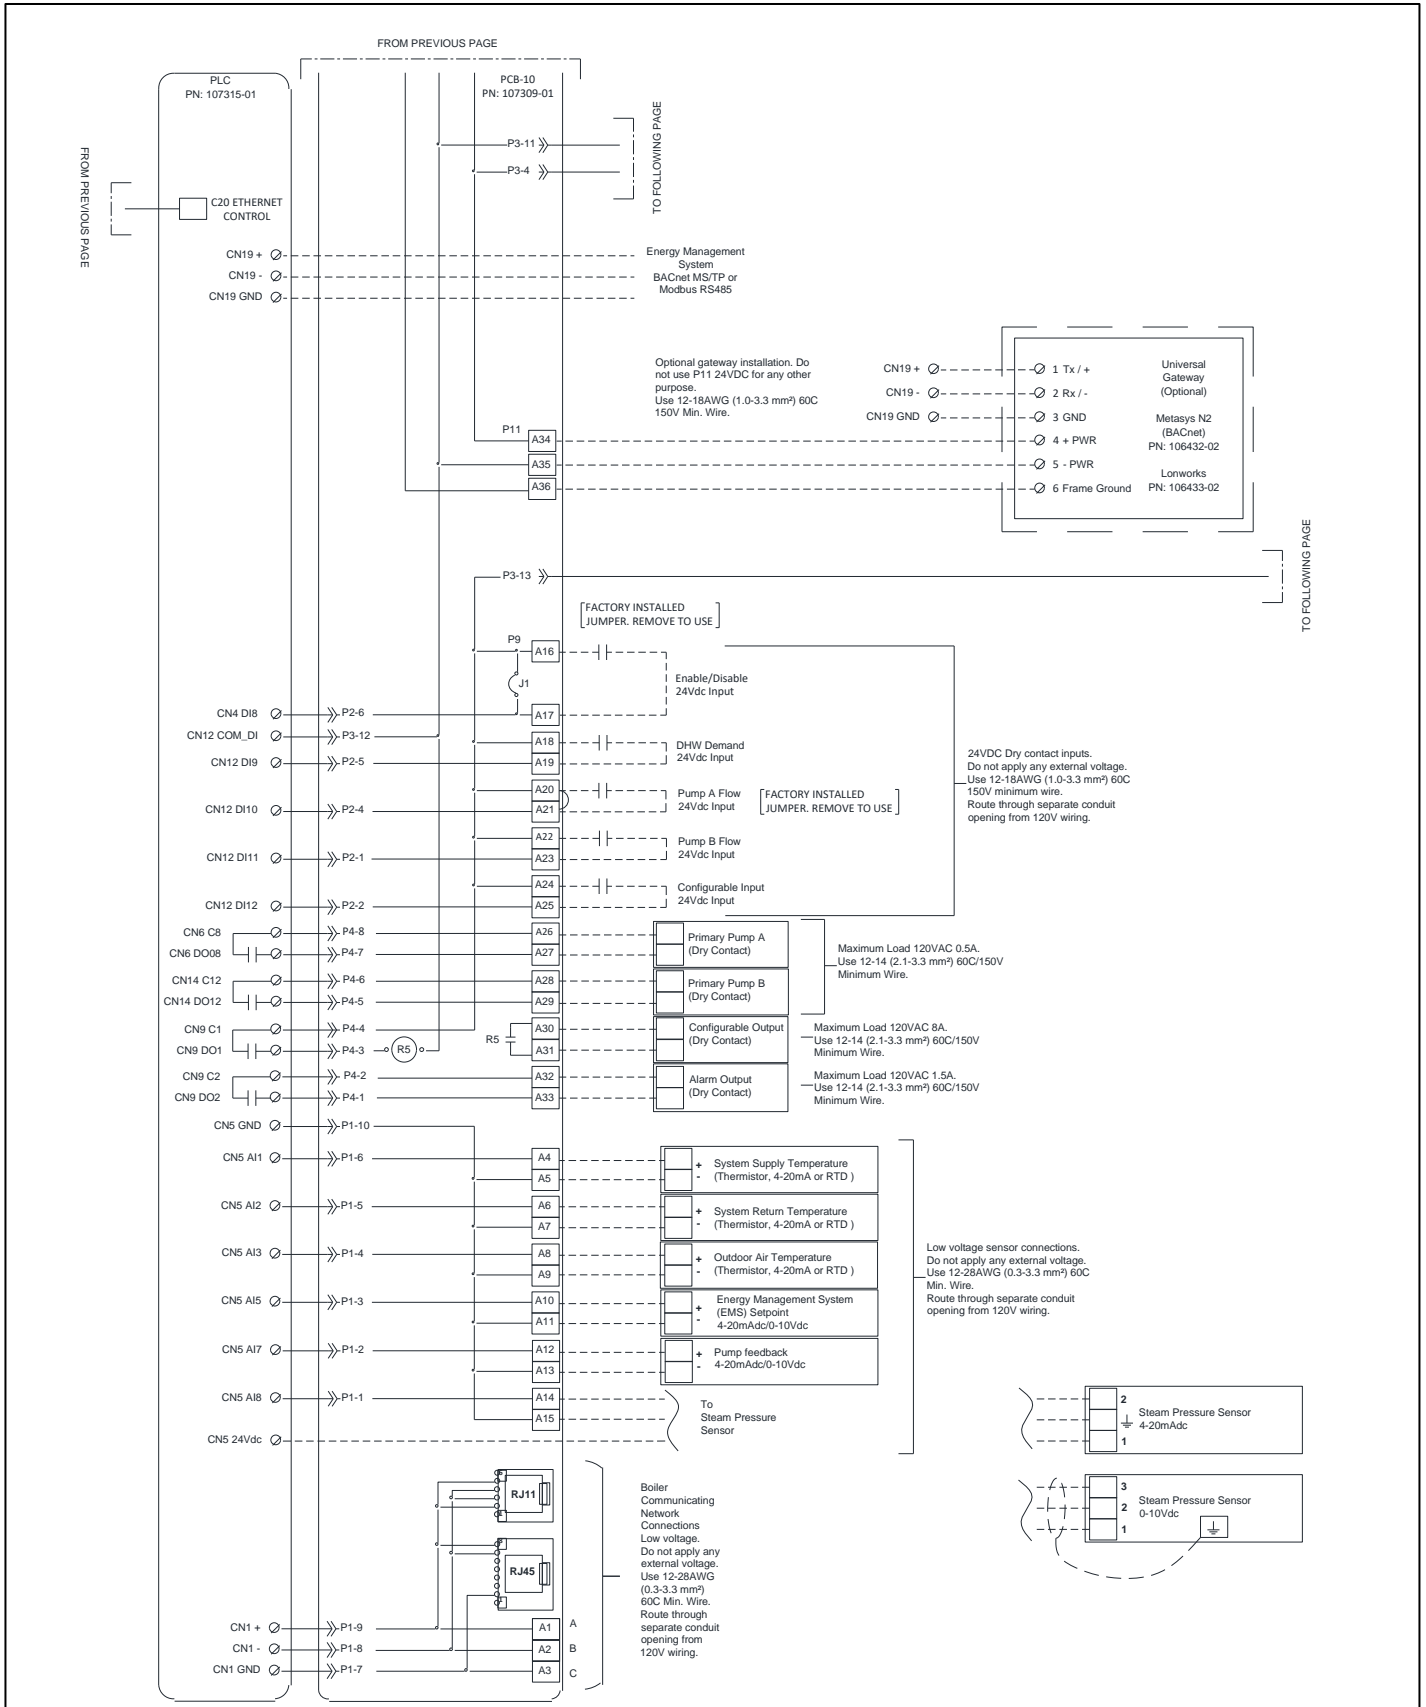

Figure 14: Ladder Diagram sheet 2 of 3
- a. Following Wiring diagram provided with the Conductor panel (see figure 14 provided for reference purposes only.) when connecting wiring to the Conductor panel. The wiring diagram provides maximum acceptable load, acceptable wire size and type for each terminal.